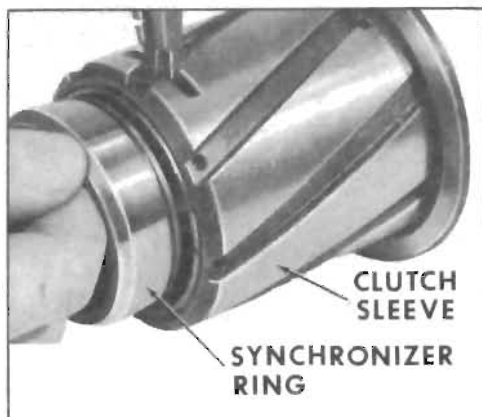

Figure 4-23—Removing Synchronizing Rings
3. Using Tool J-0932, expand the retainer into the counterbore in the clutch sleeve. This raises the retainer from the groove in the ring so that the ring may be easily slipped out. See Figure 4-23.